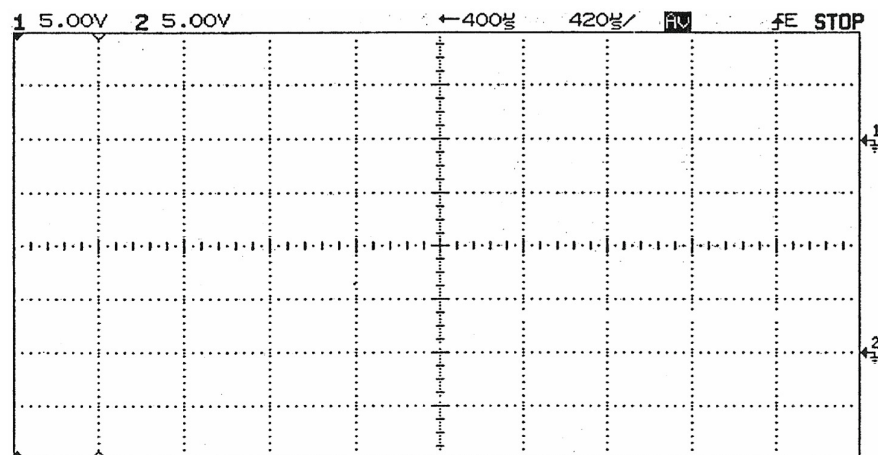

Figure 3-3w: Data signal (above) and synchronous signal (below)
- Now connect channel 1 of the oscilloscope to the synchronous signal S-Out instead of: the data signal D-Out. Observe where the synchronous signal possesses the "1" level. Make a sketch of the screen in Figure 3-3w on the worksheet. Now reconnect channel 1 to the output D-Out.